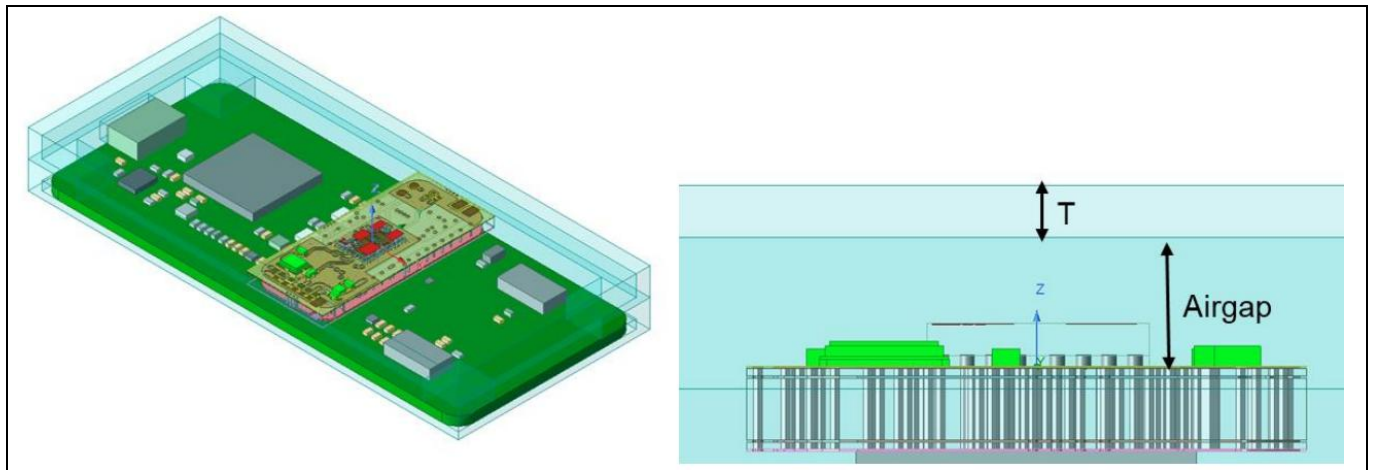

Figure 5 Radome with the MCU board
Figure 5 shows the radome including the MCU board, shield PCB, and the radar sensor with radome thickness (T) and distance (airgap) between the shield PCB and the radome bottom surface.